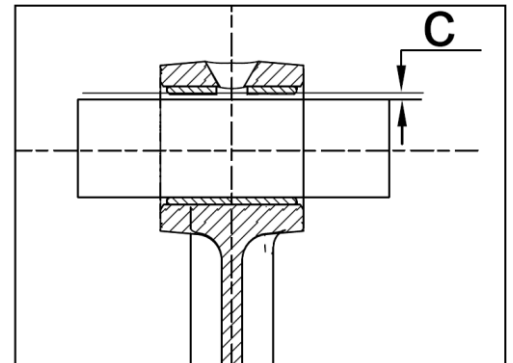

Fig. 7.3
3. Clearance between small end bush and gudgeon pin: (Fig. 7.3)